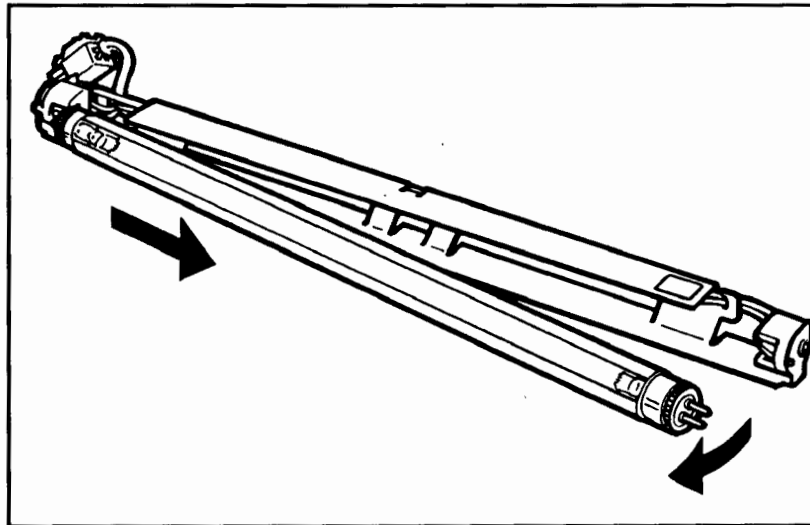

Figure 20. Removing the Used Lamp
11.Remove the used lamp from the lamp holder. See figure 20.